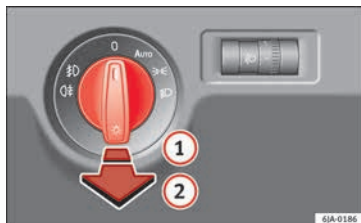

Fig. 132 Instrument panel: light switch.
- First turn the light switch \ggg Fig. 132 to position \rightarrow , \rightarrow or **AUTO**.
- Pull on the light switch to position ①.
- First turn the light switch » **Fig. 132** » page 124 to position ☞, ☞ or **AUTO**.
- Pull on the light switch to position ②.